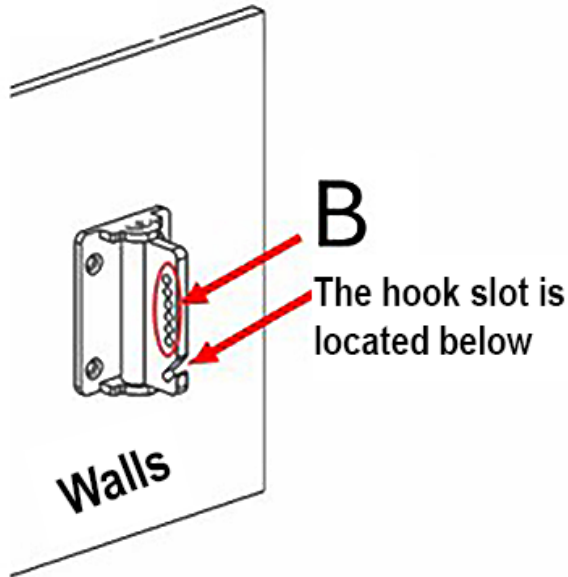

Figure 3
- a. The holes at position B (Figure 3) can be adjusted up and down to set the vertical tilt of the speaker.
- **Up-down (tilt) angle:** select the hole position at B (Figure 3) that best aligns the speaker toward the listening area, then tighten the corresponding screws.